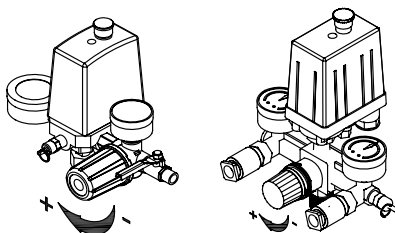

Fig.6
Regulator (Fig.6)
- Adjust the air outlet pressure by turning the regulator as shown in Fig.6.